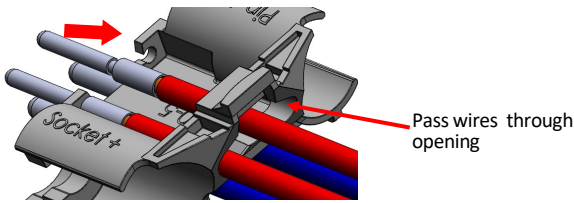

Figure 5
6. Install the upper auxiliary contacts on the top of the holder (Figure 5):